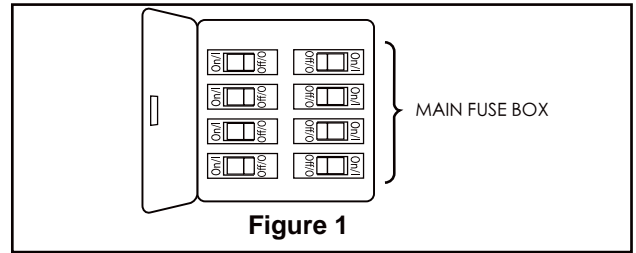
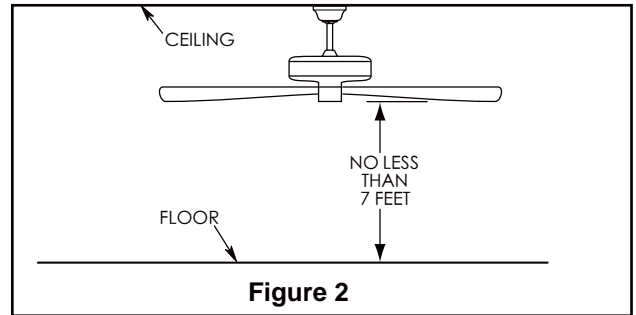
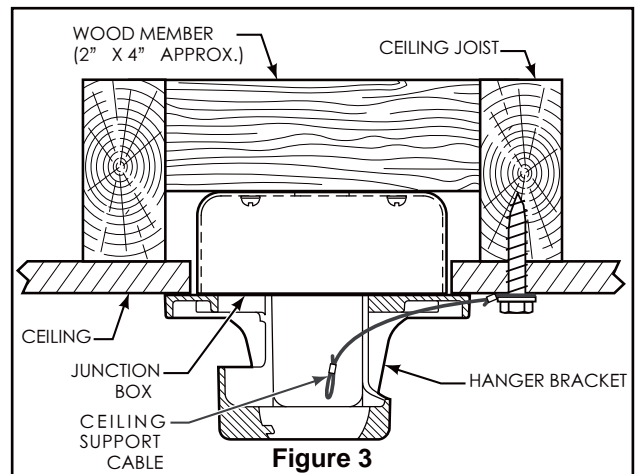

Figure 1
Figure 2
Figure 3
Your new ceiling fan will require a grounded electrical supply line of 120 volts AC, 60 HZ, 15 Amp Circuit. Electrical code requires use of a fan-rated outlet box to support the extra weight and motion associated with a ceiling fan. A fan-rated box will be labeled as such and typically supports up to a 70lb ceiling fan. Fan-Rated Outlet Boxes vary in ratings and design. Ensure the ratings of your ceiling fan outlet box meet the requirements for the ceiling fan being installed. Figure 1, Figure 2 and Figure 3 depicts different structural configurations that may be used for mounting the outlet box.
### Low profile box (Figure 1)
### Deep box (Figure 2)
### Deep box with brace (Figure 3)
- 1. Prior to assembly, set aside and save the hardware bags packed in the packing. Remove the hanger ball by loosening the setscrew in the hanger ball until the ball falls freely down the downrod. Remove the pin from the downrod, then remove the hanger ball. Retain the pin and hanger ball for reinstallation in Step 6. (Figure 1)
- 2. Remove the hairpin clip and clevis pin from the bottom of downrod. Retain the pin and clip for reinstallation in Step 4. (Figure 2)
- 3. Loosen the two set screws and locking nuts in the downrod support of the motor assembly. Route the black/white, blue, red, gray and yellow wires and safety cable through the downrod. (Figure 3)
To avoid possible electrical shock, be sure electricity is turned off at the main fuse box before hanging. (Figure 1)
The fan must be hung with at least 7' of clearance from floor to blades. (Figure 2)
1. Using the  $\frac{3}{8}$ " x 2" lag bolt and flat washer, attach safety cable to ceiling joist or wood structural member. The lag bolt will pass through the flat washer, safety cable loop, and into the building structure (Figure 3). You will first drill a  $\frac{1}{4}$ " pilot hole into the building structure to prevent splitting or cracking.
**NOTE: Ceiling support cable cannot be secured to junction box only, it must be directly secured to ceiling joist or structural member using the  $\frac{3}{8}$ " x 2" lag bolt and flat washer. (Figure 3)**
**To avoid possible electrical shock, be sure electricity is turned off at the main fuse box before wiring (Figure 1).**
1. Slide the receiver into the hanger bracket as shown in Figure 2.
2. Connect wires using connectors as shown in Figure 3.